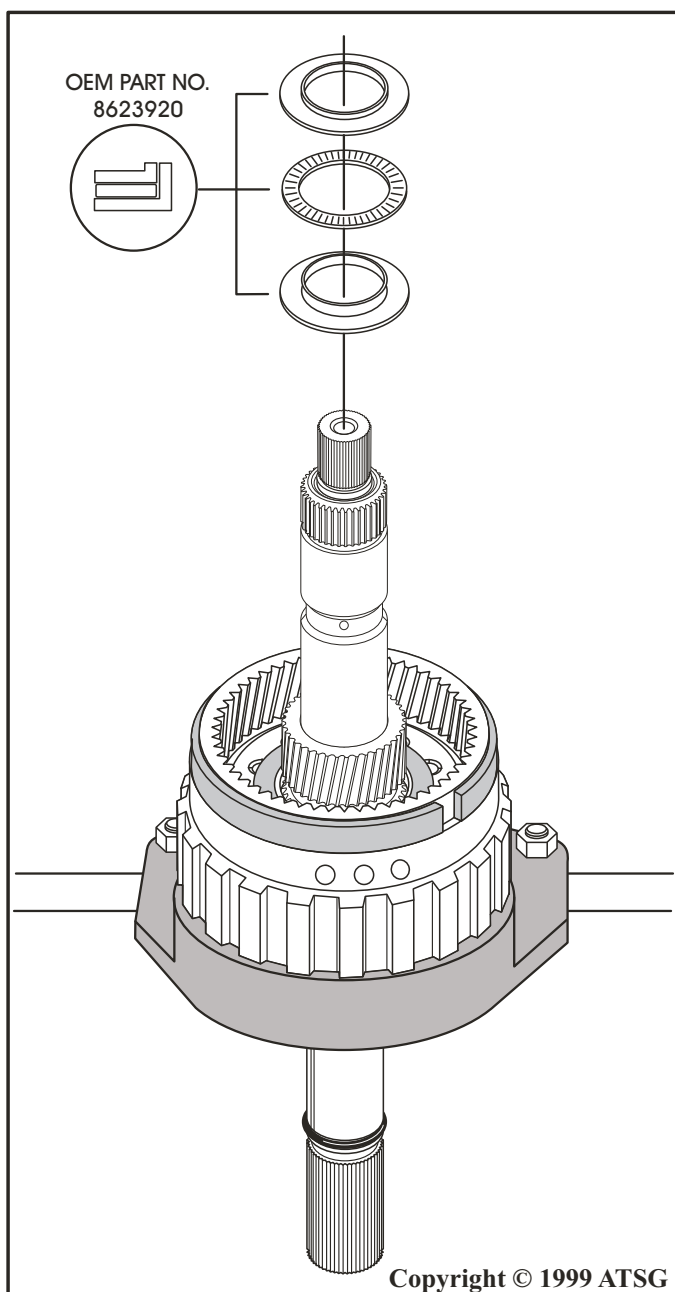

Figure 66
26. Install the lower needle bearing race from the 8623920 package over the sun gear shaft and onto the sun gear, with the inside lip facing up as shown in Figure 66.
27. Lubricate with small amount of transmission fluid and install the needle bearing assembly into the lower race (See Figure 66).
28. Install the upper needle bearing race on top of the needle bearing with the inside lip facing, up as shown in Figure 66.